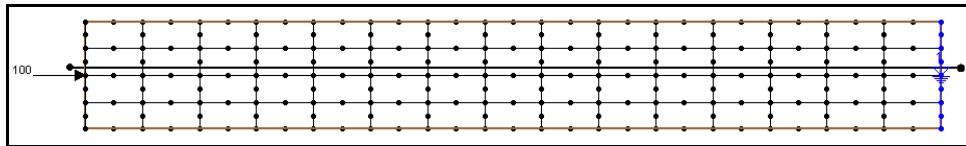

Figure 2 Mesh with observation arc
5. Create an arc down the center of the flume as shown in Figure 2.